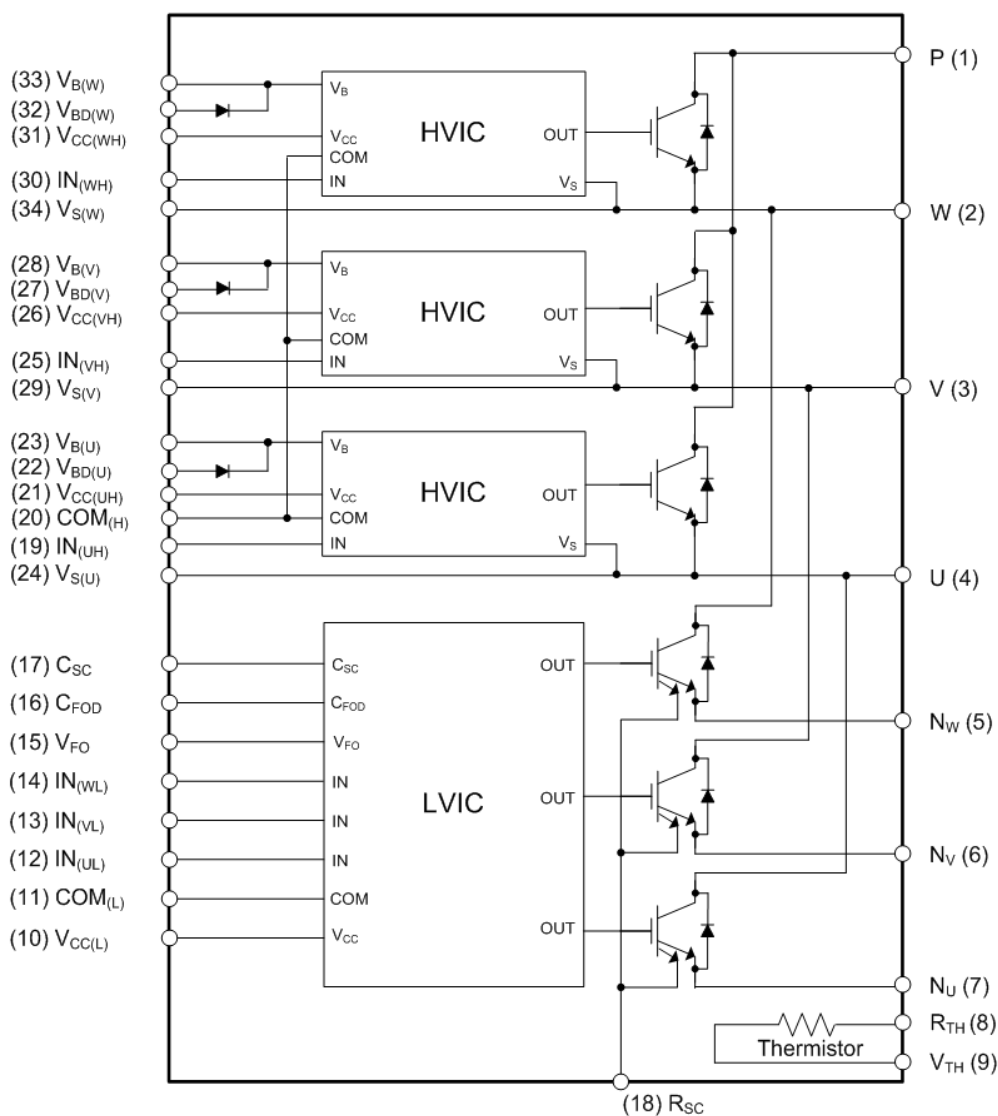

Figure 3. Internal Block Diagram
- 600 V - 30 A IGBT inverter for three-phase DC / AC power conversion (refer to Figure 3)